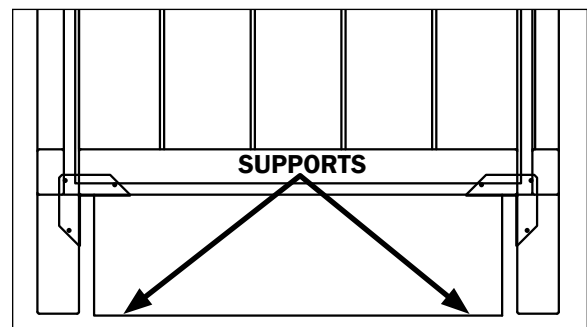

Fig. 2 Horizontal (sled runner) or vertical (caster) supports
7. Locate horizontal or vertical (caster) support positions along the chalk line (Fig. 2). Spot properly leveled shim packs at each support location.